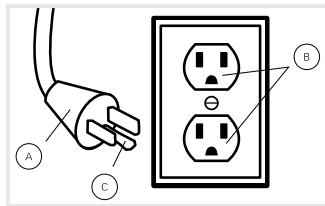
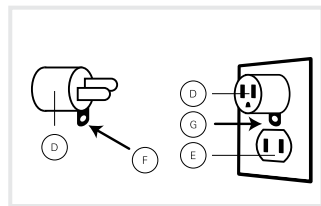

Fig. 1
Fig. 2
WARNING: Improper connection of the equipment-grounding conductor can result in the risk of electric shock. Check with a qualified electrician or service person if you are in doubt as to whether the outlet is properly grounded. Do not modify the plug provided with the appliance - if it will not fit the outlet, have a proper outlet installed by a qualified electrician. This appliance is for use on a nominal 120-volt circuit and has a grounding plug that looks like the plug (A) illustrated in Fig. 1. A temporary adapter (D) may be used to connect this plug to a 2-pole receptacle (E) if a properly grounded outlet is not available (Fig. 2). The temporary adapter should be used only until a properly grounded outlet (B) can be installed by a qualified electrician (Fig. 1). The green colored rigid ear, lug, or the like (F) extending from the adapter must be connected to a permanent ground (G) such as a properly grounded outlet box cover (Fig. 2). Whenever the adapter is used, it must be held in place by a metal screw. NOTE: In Canada, the use of a temporary adapter is not permitted by the Canadian Electrical Code.